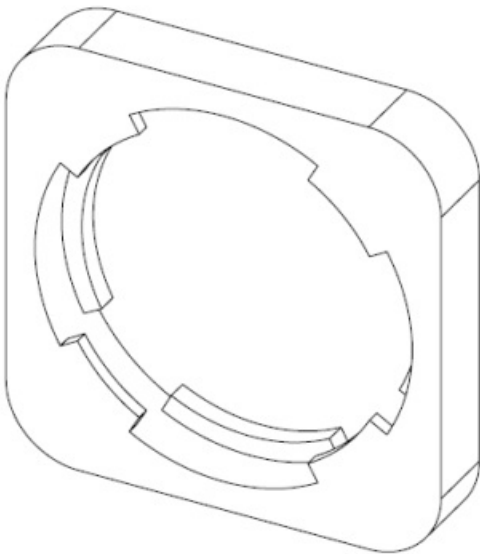

Fig. 6: Symbolic image of the counterpiece for the tube adapter
The tube adapter is intended to connect the drive with the middle tube of the height-adjustable column via a special counterpiece (see Figure 6: Symbolic image of the counterpiece for the tube adapter).
1. Assemble the counterpiece for the tube adapter (see Figure 6: Symbolic image of the counterpiece for the tube adapter) in the middle tube.